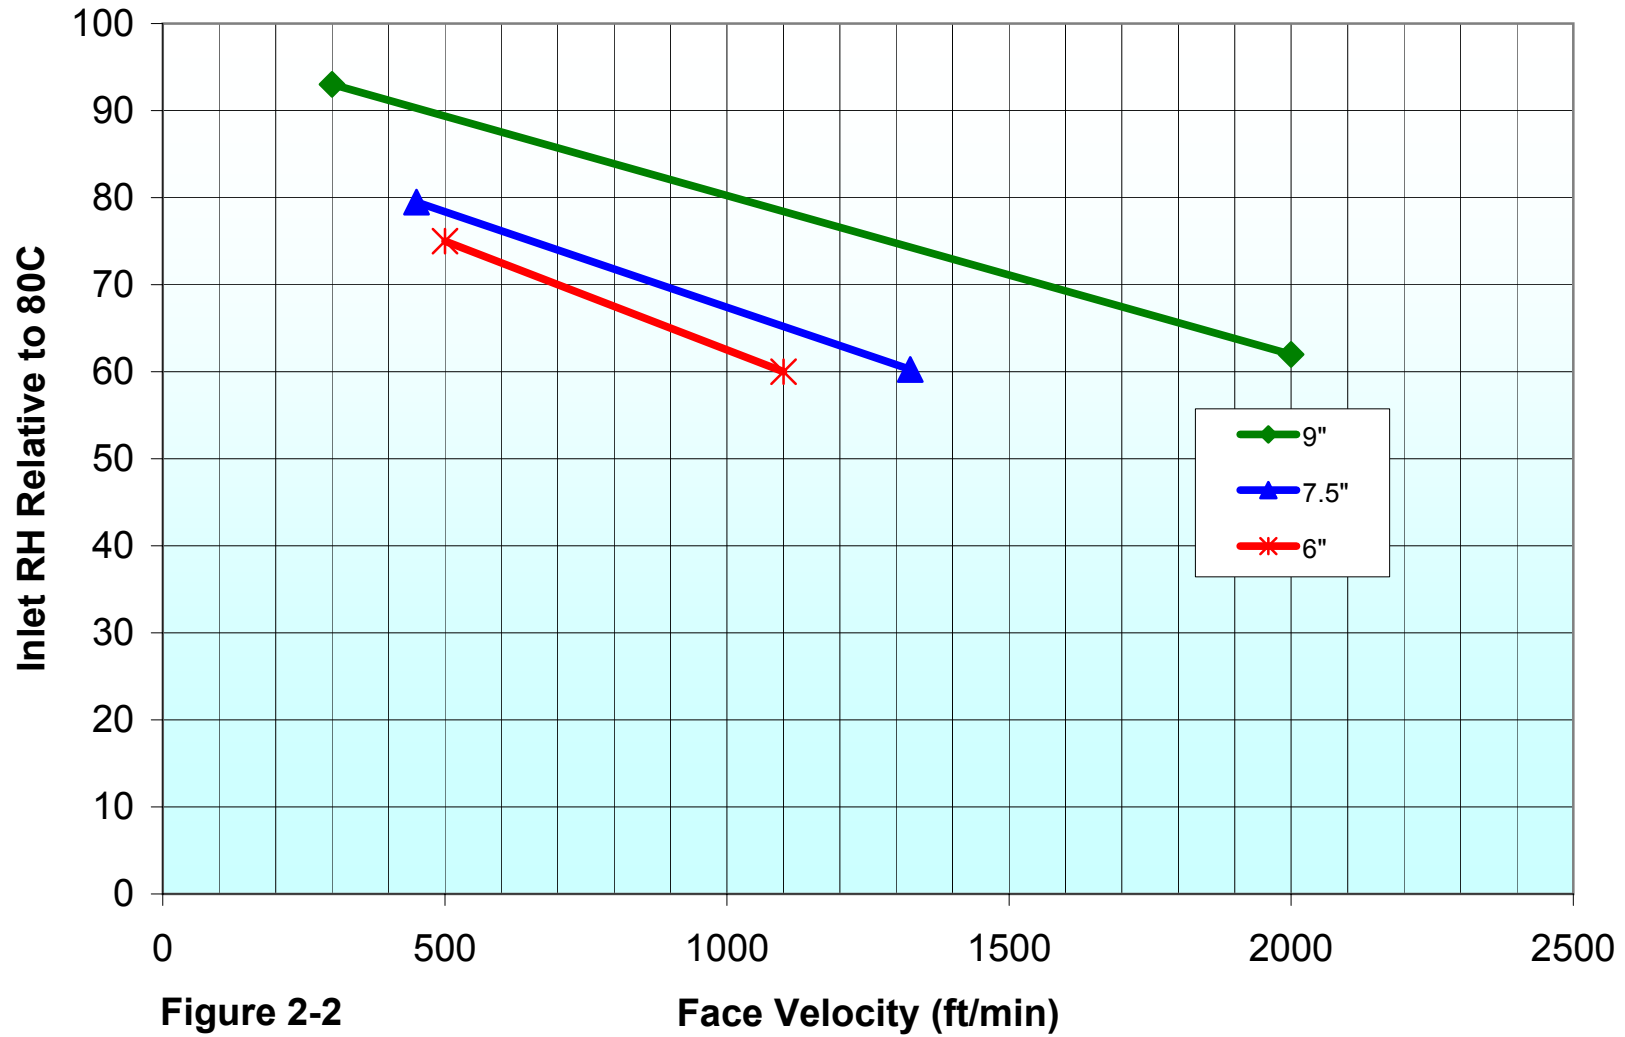

Figure 2-2
For high pressure applications the process is a little different. Figure 2-2 compares face velocity with delivery relative humidity (RH) referenced to the cathode operation temperature. Calculate your maximum actual cubic feet per minute (acfm) and your desired RH at the stack inlet. The horizontal “RH” line should intersect the family of lines representing the various core lengths. At each intersection, note the “face velocity” on the abscissa. Determine your face velocity for each cartridge size as follows:
Draw these face velocity lines on Figure 2-2. Solutions exist where these vertical lines intersect one of the families of core length lines above the desired RH line. Thus you may have several diameter/length choices for your engine.